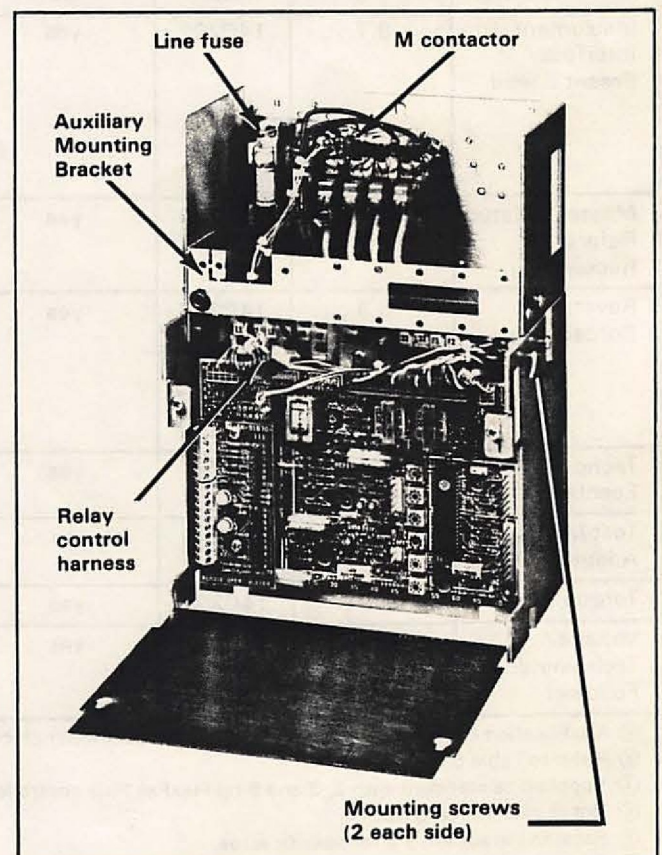

Figure 5.2 — Auxiliary Panel Mounting
**Step 2** — Orient the Auxiliary Panel over the Basic Controller aligning the mounting holes. Secure the Panel with the provided screws. (Refer to Figure 5.2.)
**Step 4** — Place the relay control harness connector over the Regulator pins marked FWD. (Refer to Figure 5.2.) Orientation is important: connect the orange wire with the pin called out as ORG 139. (Refer to Figure 6.4.)